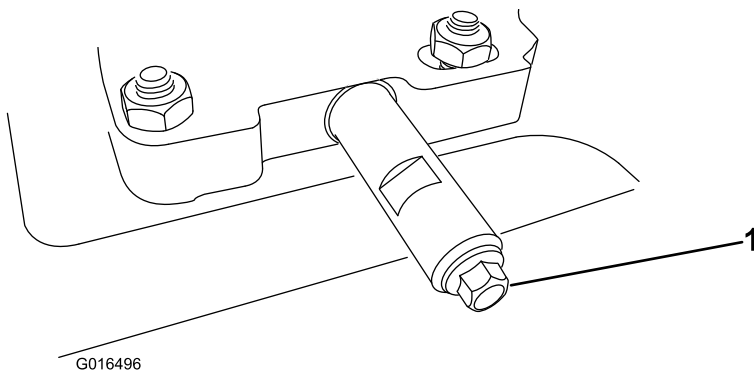

Figure 41
1. Clean the area around the oil-drain cap (Figure 41).